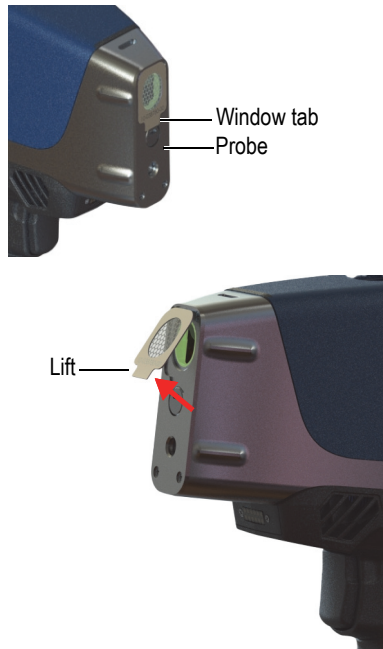

Figure 4-1 Vanta window removal
- ◆ Grasp the tab at the bottom of the window and then pull up until the window is completely detached from the probe (see Figure 4-1 on page 91).